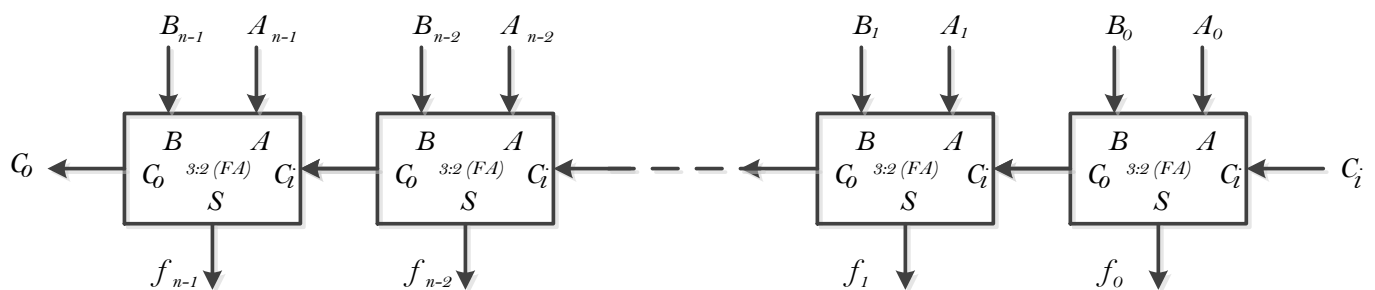

Figure 3 Carry Ripple Adder
- Use this module to build the ripple adder. Create another VHDL file and (Adder8bit for example) and use instances of the FullAdder module to build. Sample code for 2-bits ripple adder is shown in Figure 4. This code shows you how to use modular design approach to build large circuits. Expand this circuit to build 8-bit ripple adder as shown in Figure 3 .